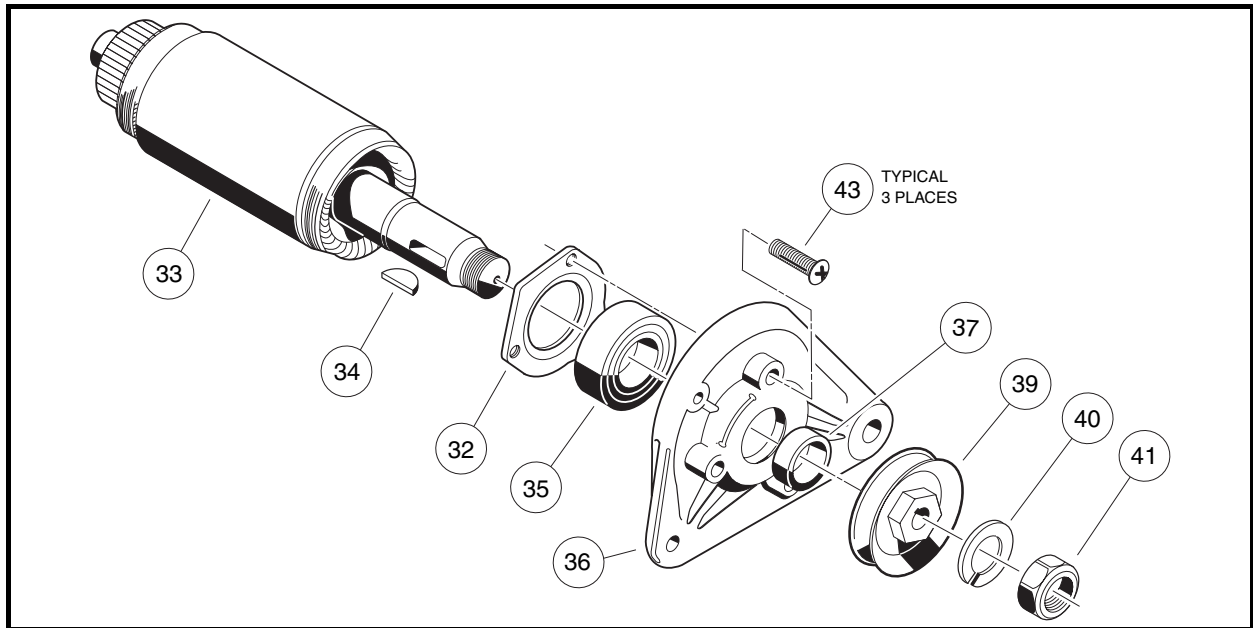

Figure 12-7 Armature and Output End Cover Assembly
2. Remove nut (41), lockwasher (40), pulley (39), shaft key (34), spacer (37), and bearing retainer screws (43) and separate armature (33) from output end cover (36) (**Figure 12-7, Page 12-5**).
3. Slide the bearing retainer (32) off of the output end of the shaft (**Figure 12-7, Page 12-5**).
4. Slide the bearing retainer onto the output end of the armature shaft (33) so that it will hold only the outside of the bearing (35) (**Figure 12-7, Page 12-5**).
5. Press a new ball bearing (35) onto the output end of the armature. Press a new ball bearing onto the commutator end of the armature shaft. **See following CAUTION.**
6. Install the output end cover (36) onto the armature. Secure the bearing retainer (32) to the cover and tighten the screws (43) to 39 in-lb (4.4 N·m) (**Figure 12-7, Page 12-5**).
11. Slide the spacer (37) onto the end of the shaft. Insert the shaft key (34) into the shaft. Install the belt pulley (39) onto the shaft, and install the lockwasher (40) and M14 nut (41) and tighten the nut to 28 ft-lb (38 N·m) (**Figure 12-7, Page 12-5**).